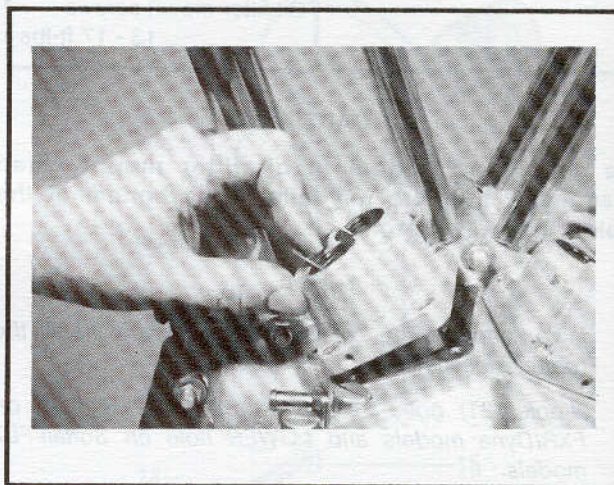

Figure 3-40. Remove Tappet and Guide Assembly
4. See Figure 3-40. To remove the tappets and guides together, fashion a U-shaped wire from a large paper clip. Insert the ends into the tappets and tilt the guide and tappets out together.